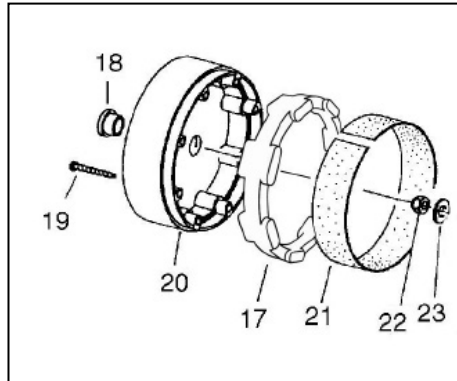

Fig. 7.3A
- Remove the black plug (item 18) from the base of the pump (item 20), as shown in Fig. 7.3A
8 Cleaning The Blue Diver Filter (Ref. Fig. 7.3A)
- Remove the 8 screws (item 19, Fig. 7.3A) in the pump base (item 20).
- Remove the base (item 20) and the filter (item 21).